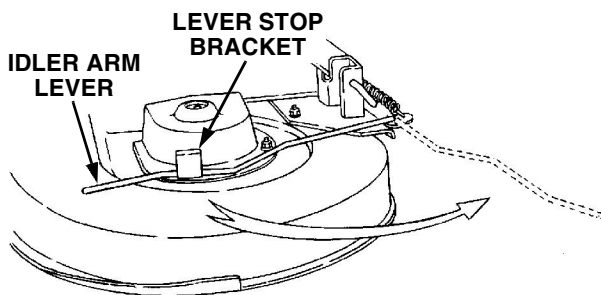

Figure 6-25
- Disengage the deck idler arm lever from its stop bracket and release the spring tension by rotating the lever out and rearward (See Figure 6-25).